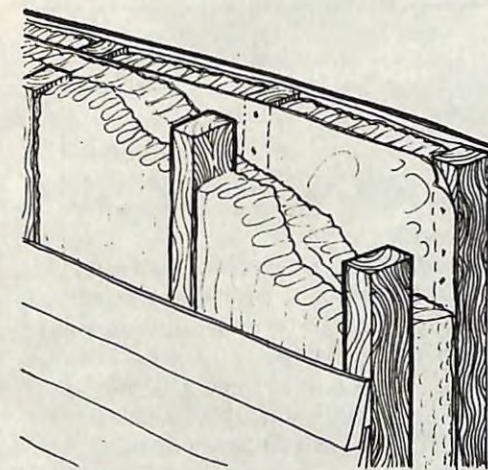

Figure 1
1. Double stud wall with a polyethylene vapour barrier approximately 1/3 of the way through the insulation. (Fig. 1)